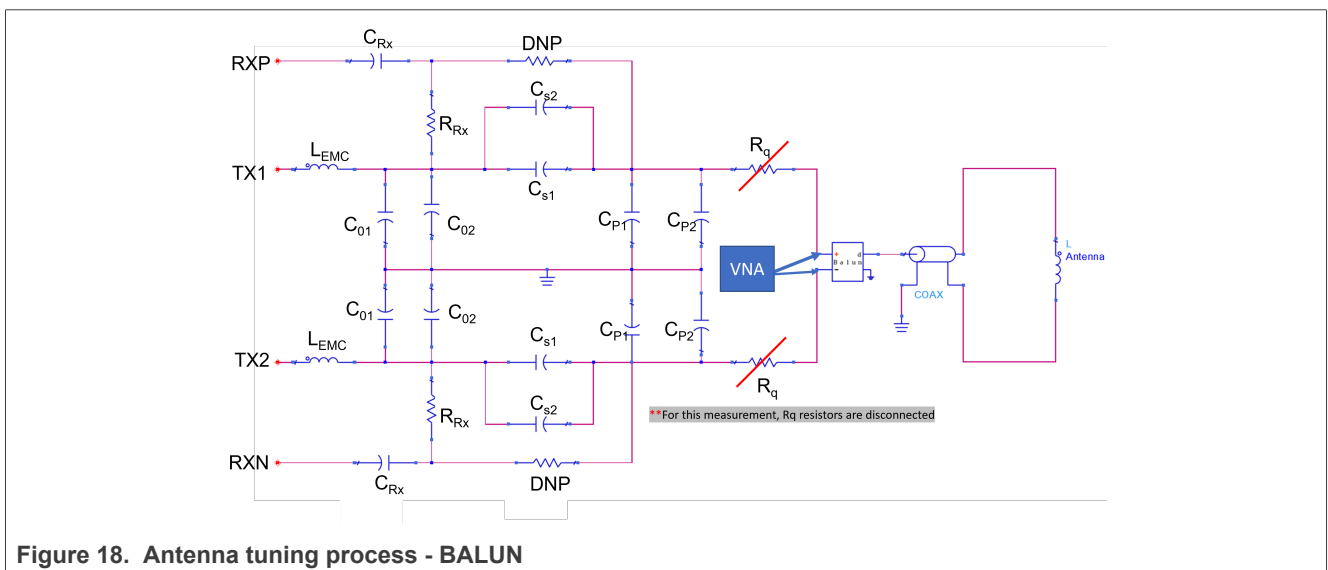

Figure 18. Antenna tuning process - BALUN
1. Measure the antenna + coax cable + BALUN by a VNA (disconnect the rest of the tuning circuit → Figure 18)